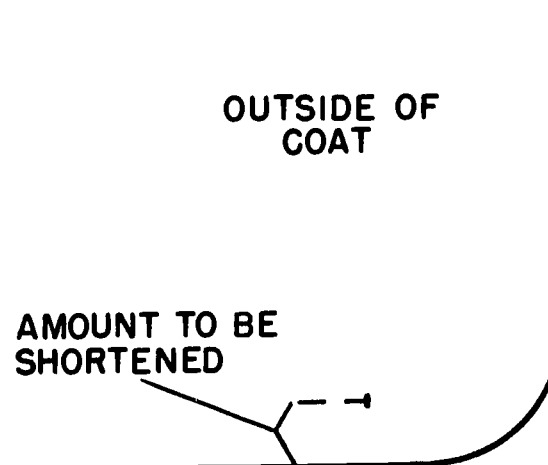

Figure 46.
4. On the right side of the suit coat, make a mark above the original hemline to indicate the amount the coat is to be shortened (see Figure 46).